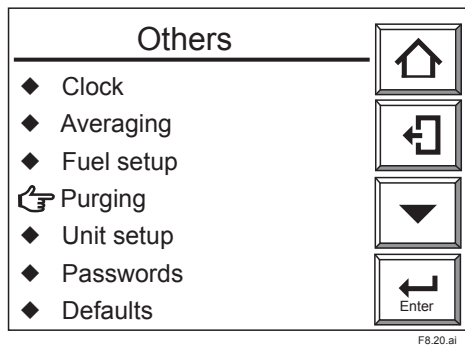

Figure 8.22 Other Settings
- (1) Press the [Setup] key in the Basic panel display to display the Execution/Setup display.
- (2) Select "Commissioning" in the Execution/Setup display. The Commissioning (Setup) display then appears.
- (3) Select "Others" in that display and the Others display then appears, as shown in Figure 8.22.
- (1) From the Basic panel display touch the [Setup] key, and the Execution/Setup display appears.
- (2) Select "Commissioning", and the Commissioning display appears.
- (3) Select "Others" then "Passwords". The display shown in Fig. 8.22 appears.